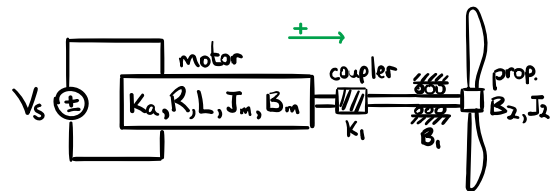

Figure exe.5: Exercise emech. part (b)
- The electromechanical system of Fig. exe.5 with motor model parameters shown, coordinate arrow in green. Model the propeller as a moment of inertia  $J_2$  and damping  $B_2$ .